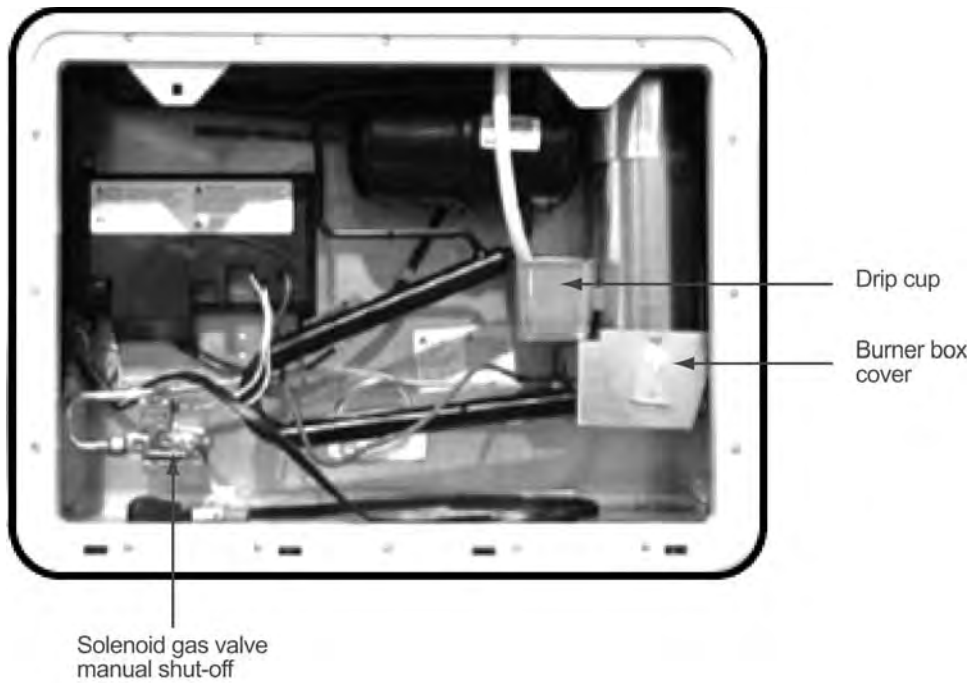

Figure 17. Drip Cup and Burner Box Cover.
Step 3 through Step 5, refer to Figure 17, page 32